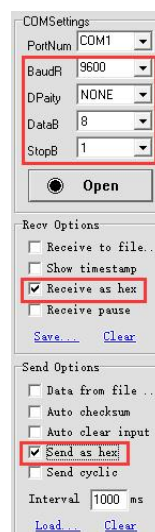

Fig 9.4.1 Set serial port parameters
- Configure the serial port parameters, as shown in Fig 9.4.1.